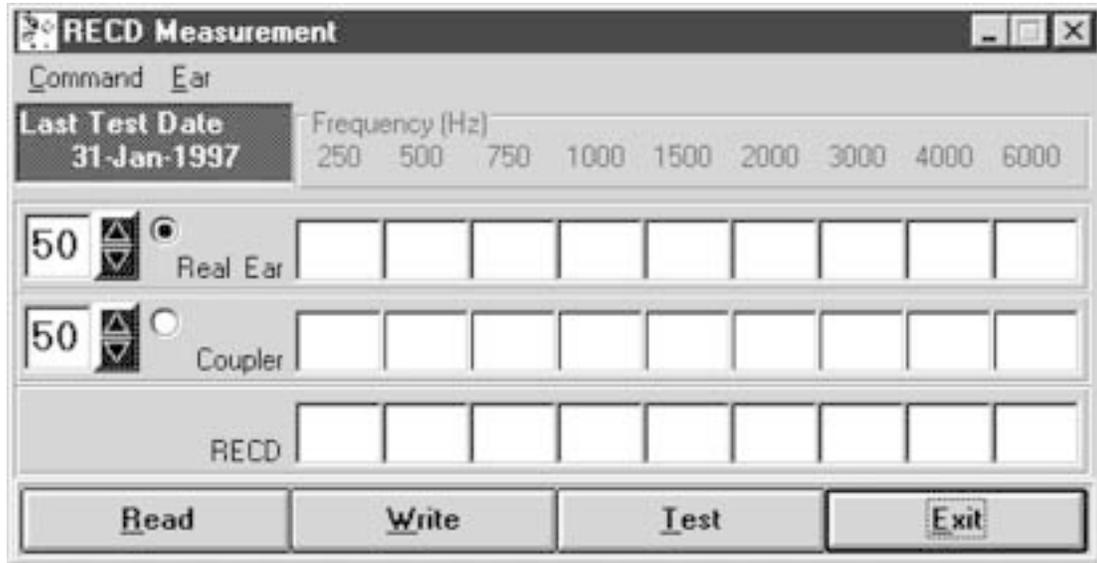

Figure 4.3B
1. Click on the RECD icon. A new window will open. See Figure 4.3B